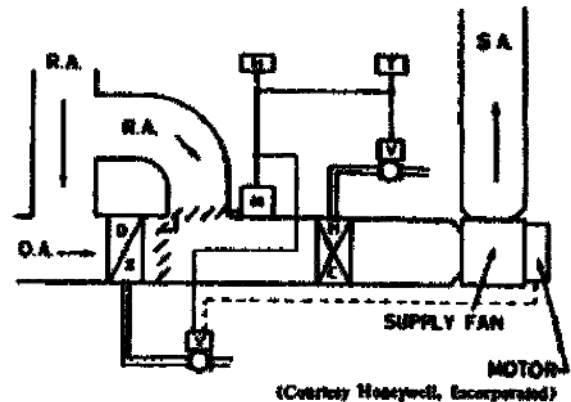

Figure 11. Dehumidification control in a D/X return air bypass system.
22. *Control of dehumidification with a return air bypass system.* Figure 11 shows a system which uses a return air bypass damper to control airflow across the D/X coil for dehumidification. The space humidistat opens the D/X coil valve when a predetermined minimum cooling load is reached and positions the bypass damper to maintain space relative humidity.